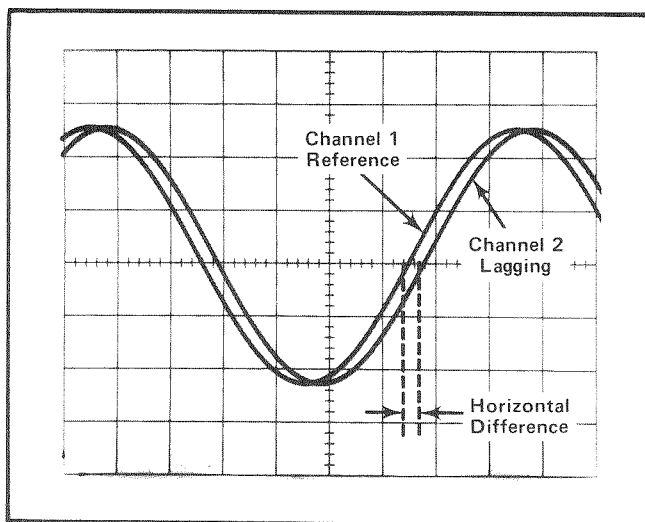
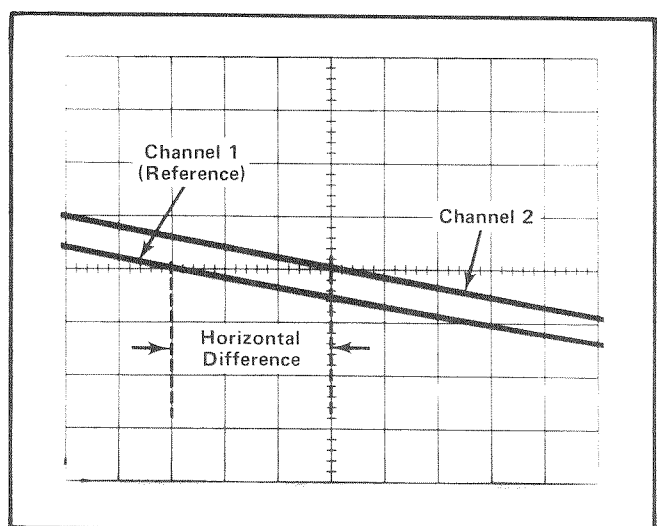

Fig. 2-4. Measuring phase difference between two signals.
Fig. 2-5. High resolution phase measurement using time-base magnifier.
8. Adjust the time-base Variable Time/Div control until one cycle of the reference signal occupies exactly eight horizontal divisions between the second and tenth vertical lines of the graticule (see Fig. 2-4). Each division of the graticule represents 45° of the cycle ($360^\circ \div 8 \text{ divisions} = 45^\circ/\text{division}$). The sweep rate can now be stated in terms of degrees as $45^\circ/\text{division}$.
EXAMPLE: Assume a horizontal difference of 0.3 division with a sweep rate of $45^\circ/\text{division}$ as shown in Fig. 2-4.
EXAMPLE: If the sweep rate is increased 10 times by the Magnifier, the magnified sweep rate is $45^\circ/\text{division} \div 10 = 4.5^\circ/\text{division}$. Fig. 2-5 shows the same signals as used in Fig. 2-4 but with the Magnifier set to X10. With a horizontal difference of 3 divisions, the phase difference is: